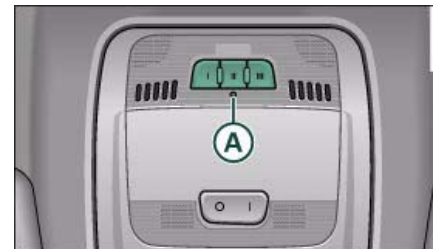

Fig. 171 Operating unit in headliner
⇒ *page 154*, fig. 171 until the indicator diode **A**
⇒ *page 154*, fig. 171 begins to flash after about 20 seconds. This procedure will delete the standard factory settings and does **not** need to be repeated when programming the other buttons.
- Watch HomeLink diode **A** ⇒ *page 154*, fig. 171. If the diode starts flashing rapidly and turns into a constant light after about 2 seconds, this indicates that the device you wish to operate (e.g. a garage door opener) is equipped with a rolling code.
- Press the programmed HomeLink button ⇒ *page 154*, fig. 171. The device assigned to that button (e.g. garage door) will be activated.
The HomeLink indicator diode ⇒ *page 154*, fig. 171 will light up when you press the button. ■
- Press and hold down the two outer buttons until the indicator diode starts to flash ⇒ *page 154*, fig. 171.
- Press and hold down the selected button until the indicator diode ⇒ *page 154*, fig. 171 starts flashing slowly.